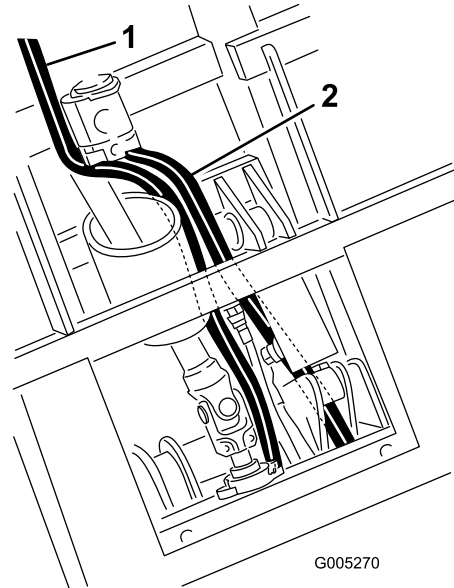

Figure 19
- A. Route the tank hose under the lift cylinder and between the cylinder-mounting brackets to the valve (Figure 19).
- B. Route the pressure hose along side the PTO shaft to the valve (Figure 19).